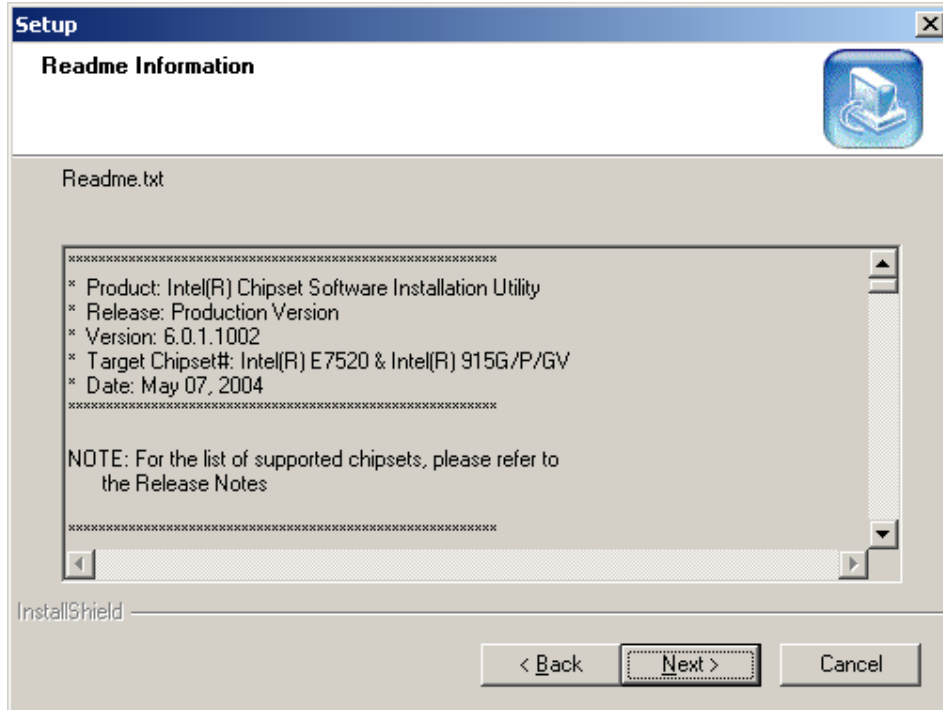

Figure 6-12: Chipset Software Installation Utility Readme File Information
Step 5: Read the license agreement. To accept the terms and conditions stipulated in the agreement, click YES and the Readme file information appears (Figure 6-12).